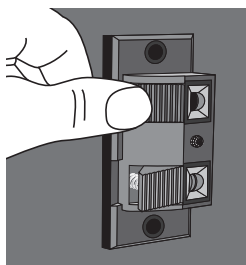

figure 11
2. Gently press on the toggle to open the connector **(figure 11)**.